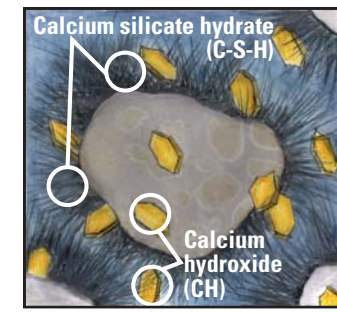

Figure 6. Hydration compounds during stage 4
- Soon after final set, the buildup of C-S-H and CH begins to limit access of water to undissolved cement (figure 6). Silicate reactions slow. Heat peaks and begins to drop.